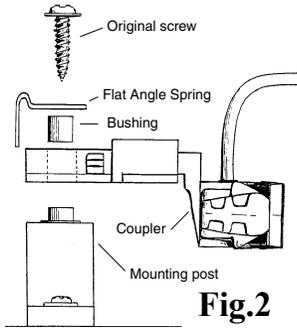

Fig. 2
3. Place the new coupler gear box on loco mounting bracket as shown in fig. 2. After installing the bushing in the hole of the gear box shank, position the flat angle spring as shown and secure with the original screw making sure gear box is straight. Test centering action of gear box. If more spring tension is needed you can push forward on the spring while tightening the screw. The spring can also be bent slightly if required.